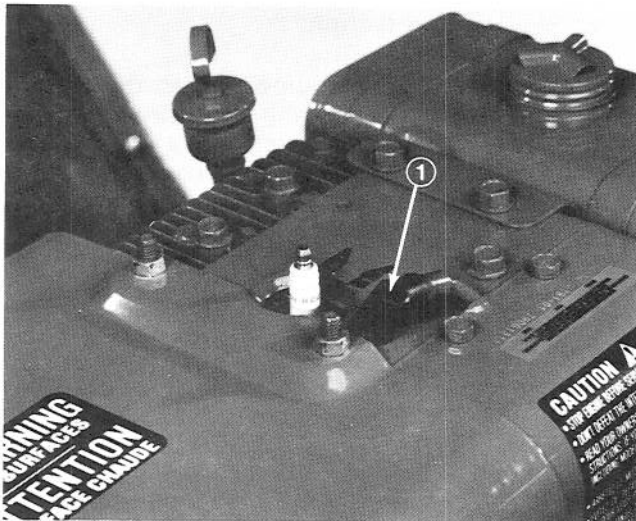

Figure 42
2. Pull high tension wire off spark plug (Fig. 42); then remove plug from cylinder head.
4. Push high tension wire onto spark plug (Fig. 42).